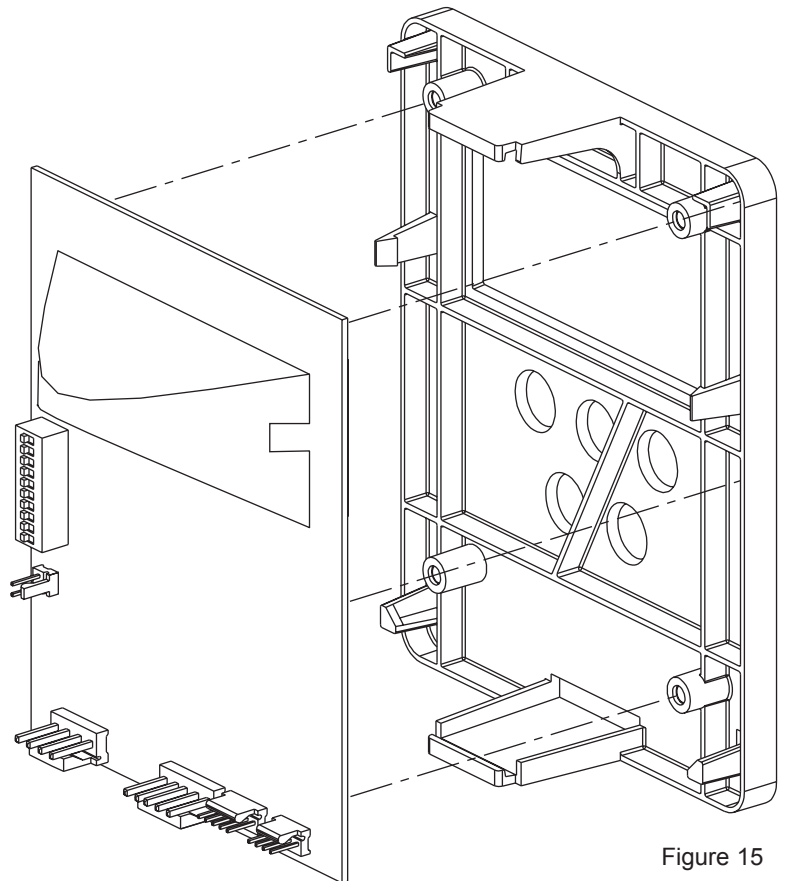

Figure 15
4. Unsnap the circuit board from the mounting plate. See Figure 15.